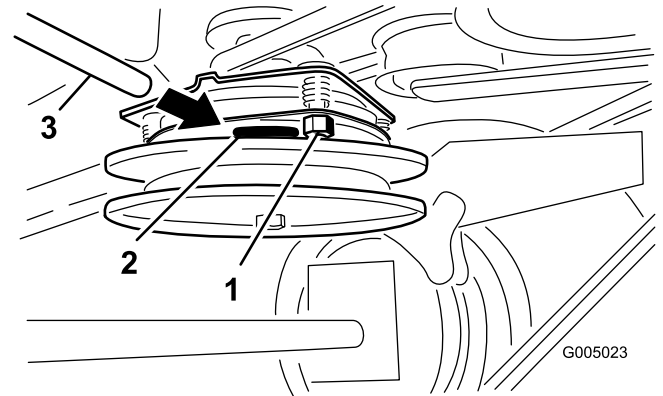

Figure 40
2. Tighten the lock nuts until there is slight binding on the feeler gauge but it can be moved easily within the air gap (Figure 40).